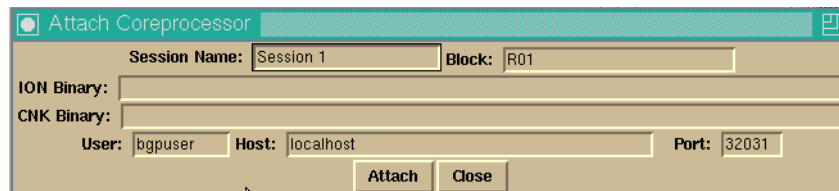

Figure 10-2 Coreprocessor attach window
1. Start the Coreprocessor GUI as described previously, and then select **File** → **Attach To Block**. The window shown in Figure 10-2 opens.